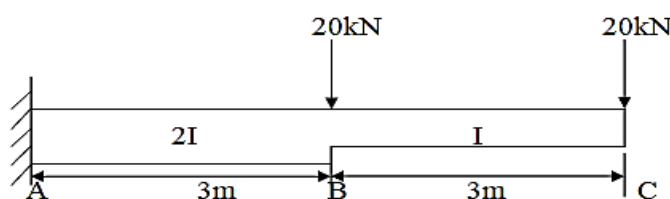

Fig. 2
2. Calculate the deflection of joint C as shown in Fig. 2 using unit load method. Take $E=2 \times 10^5$ N/mm². $I=12 \times 10^6$ mm⁴